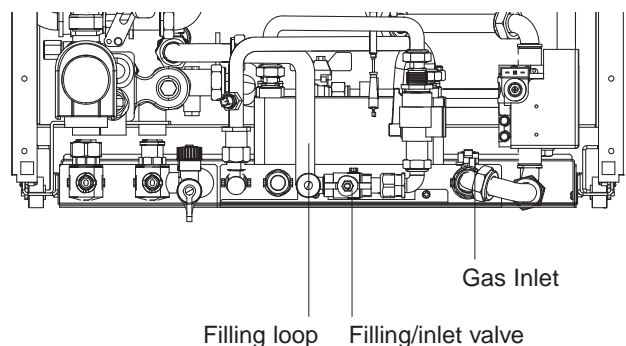

Fig. 6
a) Identify the filling/inlet valve (found at the base of the appliance) and C/H Filling Cock. See fig. 6 & 7.
b) The 'filling loop' may have been disconnected from the filling/inlet valve; if so reconnect (fig. 6) unscrewing the cap as necessary.